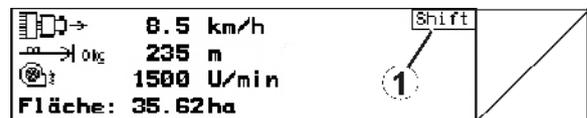

Fig. 9
- If the Shift key is active, this is indicated on the display (Fig. 9/1).